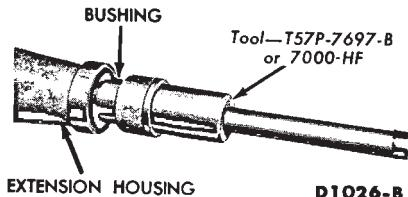

FIG. 21—Installing Extension Housing Bushing
4. When installing a new bushing use the special tool shown in Fig. 21.